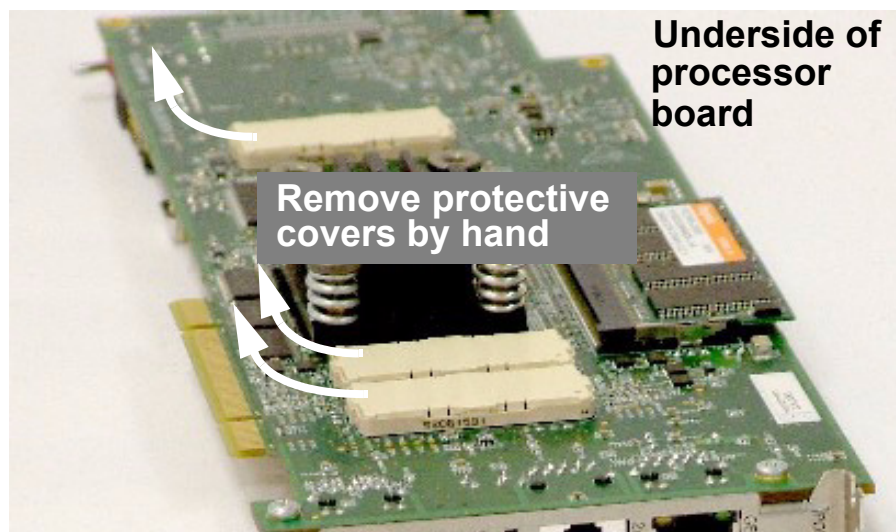

Figure 2-3. Remove Protective Covers from 300-pin connectors (underside of MPC8360EA MDS Processor Board shown)
1. Remove protective covers from the 300-pin connectors on the bottom side of the processor board (See Figure 2-3.).